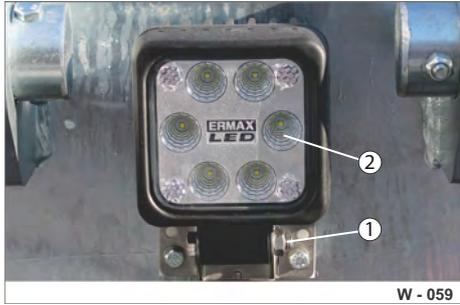

Fig. 69 Outer working light at rear
- ▶ Release the fixing screw (Fig. 69/1).
- ▶ Remove the LED light (Fig. 69/2).